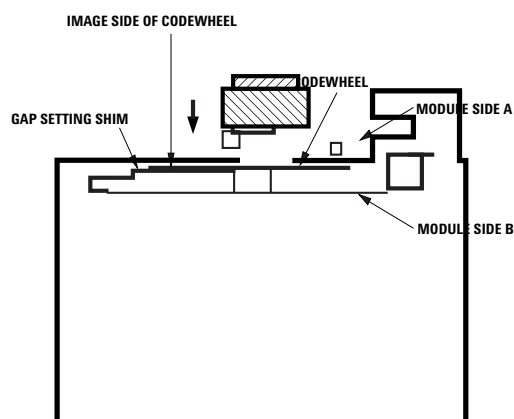

Figure 2. Alignment Tool is Used to Set Height of Codewheel.
- (a) Place the correct gap setting tool (per Ordering Information Table) on motor base, flush up against the motor shaft as shown in Figure 2. The shim has two different size steps. Choose the one that most closely matches the width of the codewheel boss. The shim should not contact the codewheel boss.